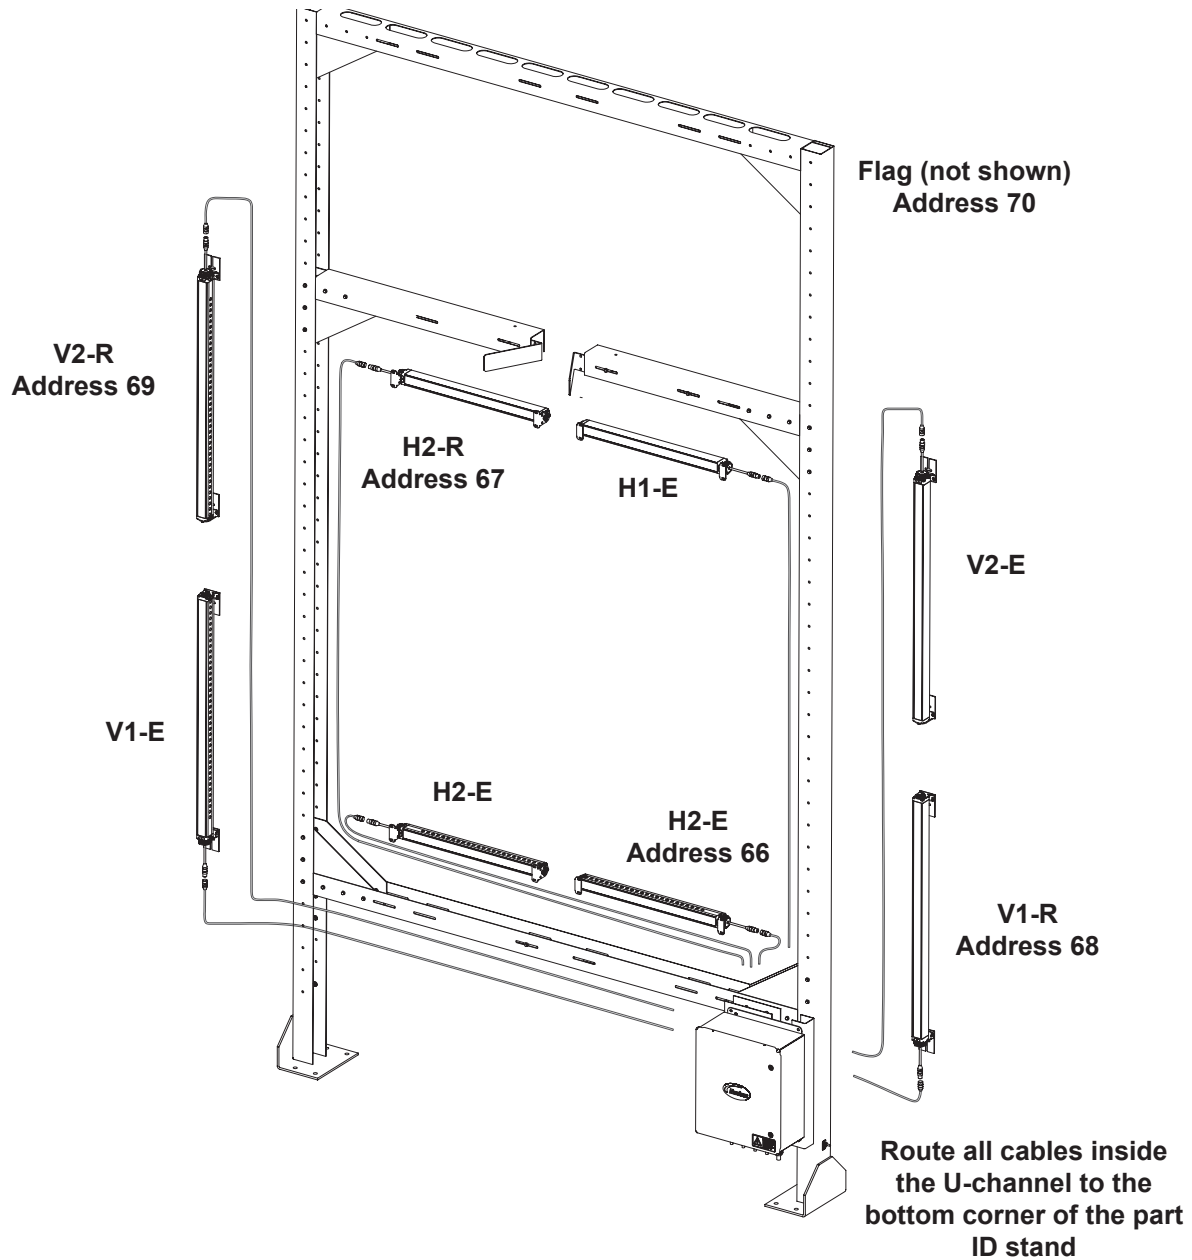

Figure 18 Sensor Location and Cable Routing
NOTE: Beam arrays are addressed at the factory. They must be installed according to Table 13 and Figure 18. Refer to the Parts section for part numbers. Contact a Nordson representative to reprogram a beam array address.
NOTE: Beam arrays are programmed at the factory and must be installed as shown in Figure 18.
10. See Figure 18. Install the beam arrays in the part ID stand.
- NOTE:** The horizontal receivers should be opposite the horizontal emitters. Note the orientation in Figure 18.